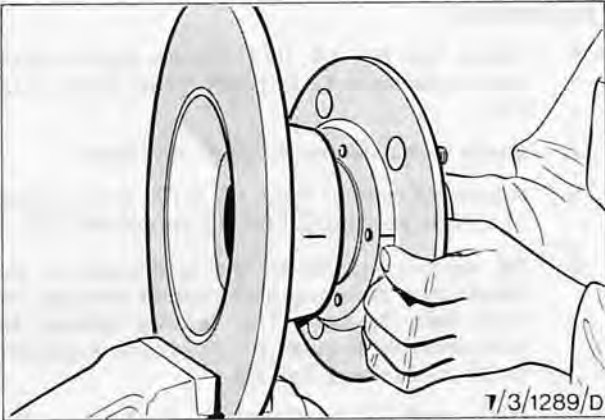

Fig. 31. Front disc and hub aligning marks
1. Remove hub assembly as described in Operation 14-371. Mark both hub and disc to assist in realignment, Fig. 31.